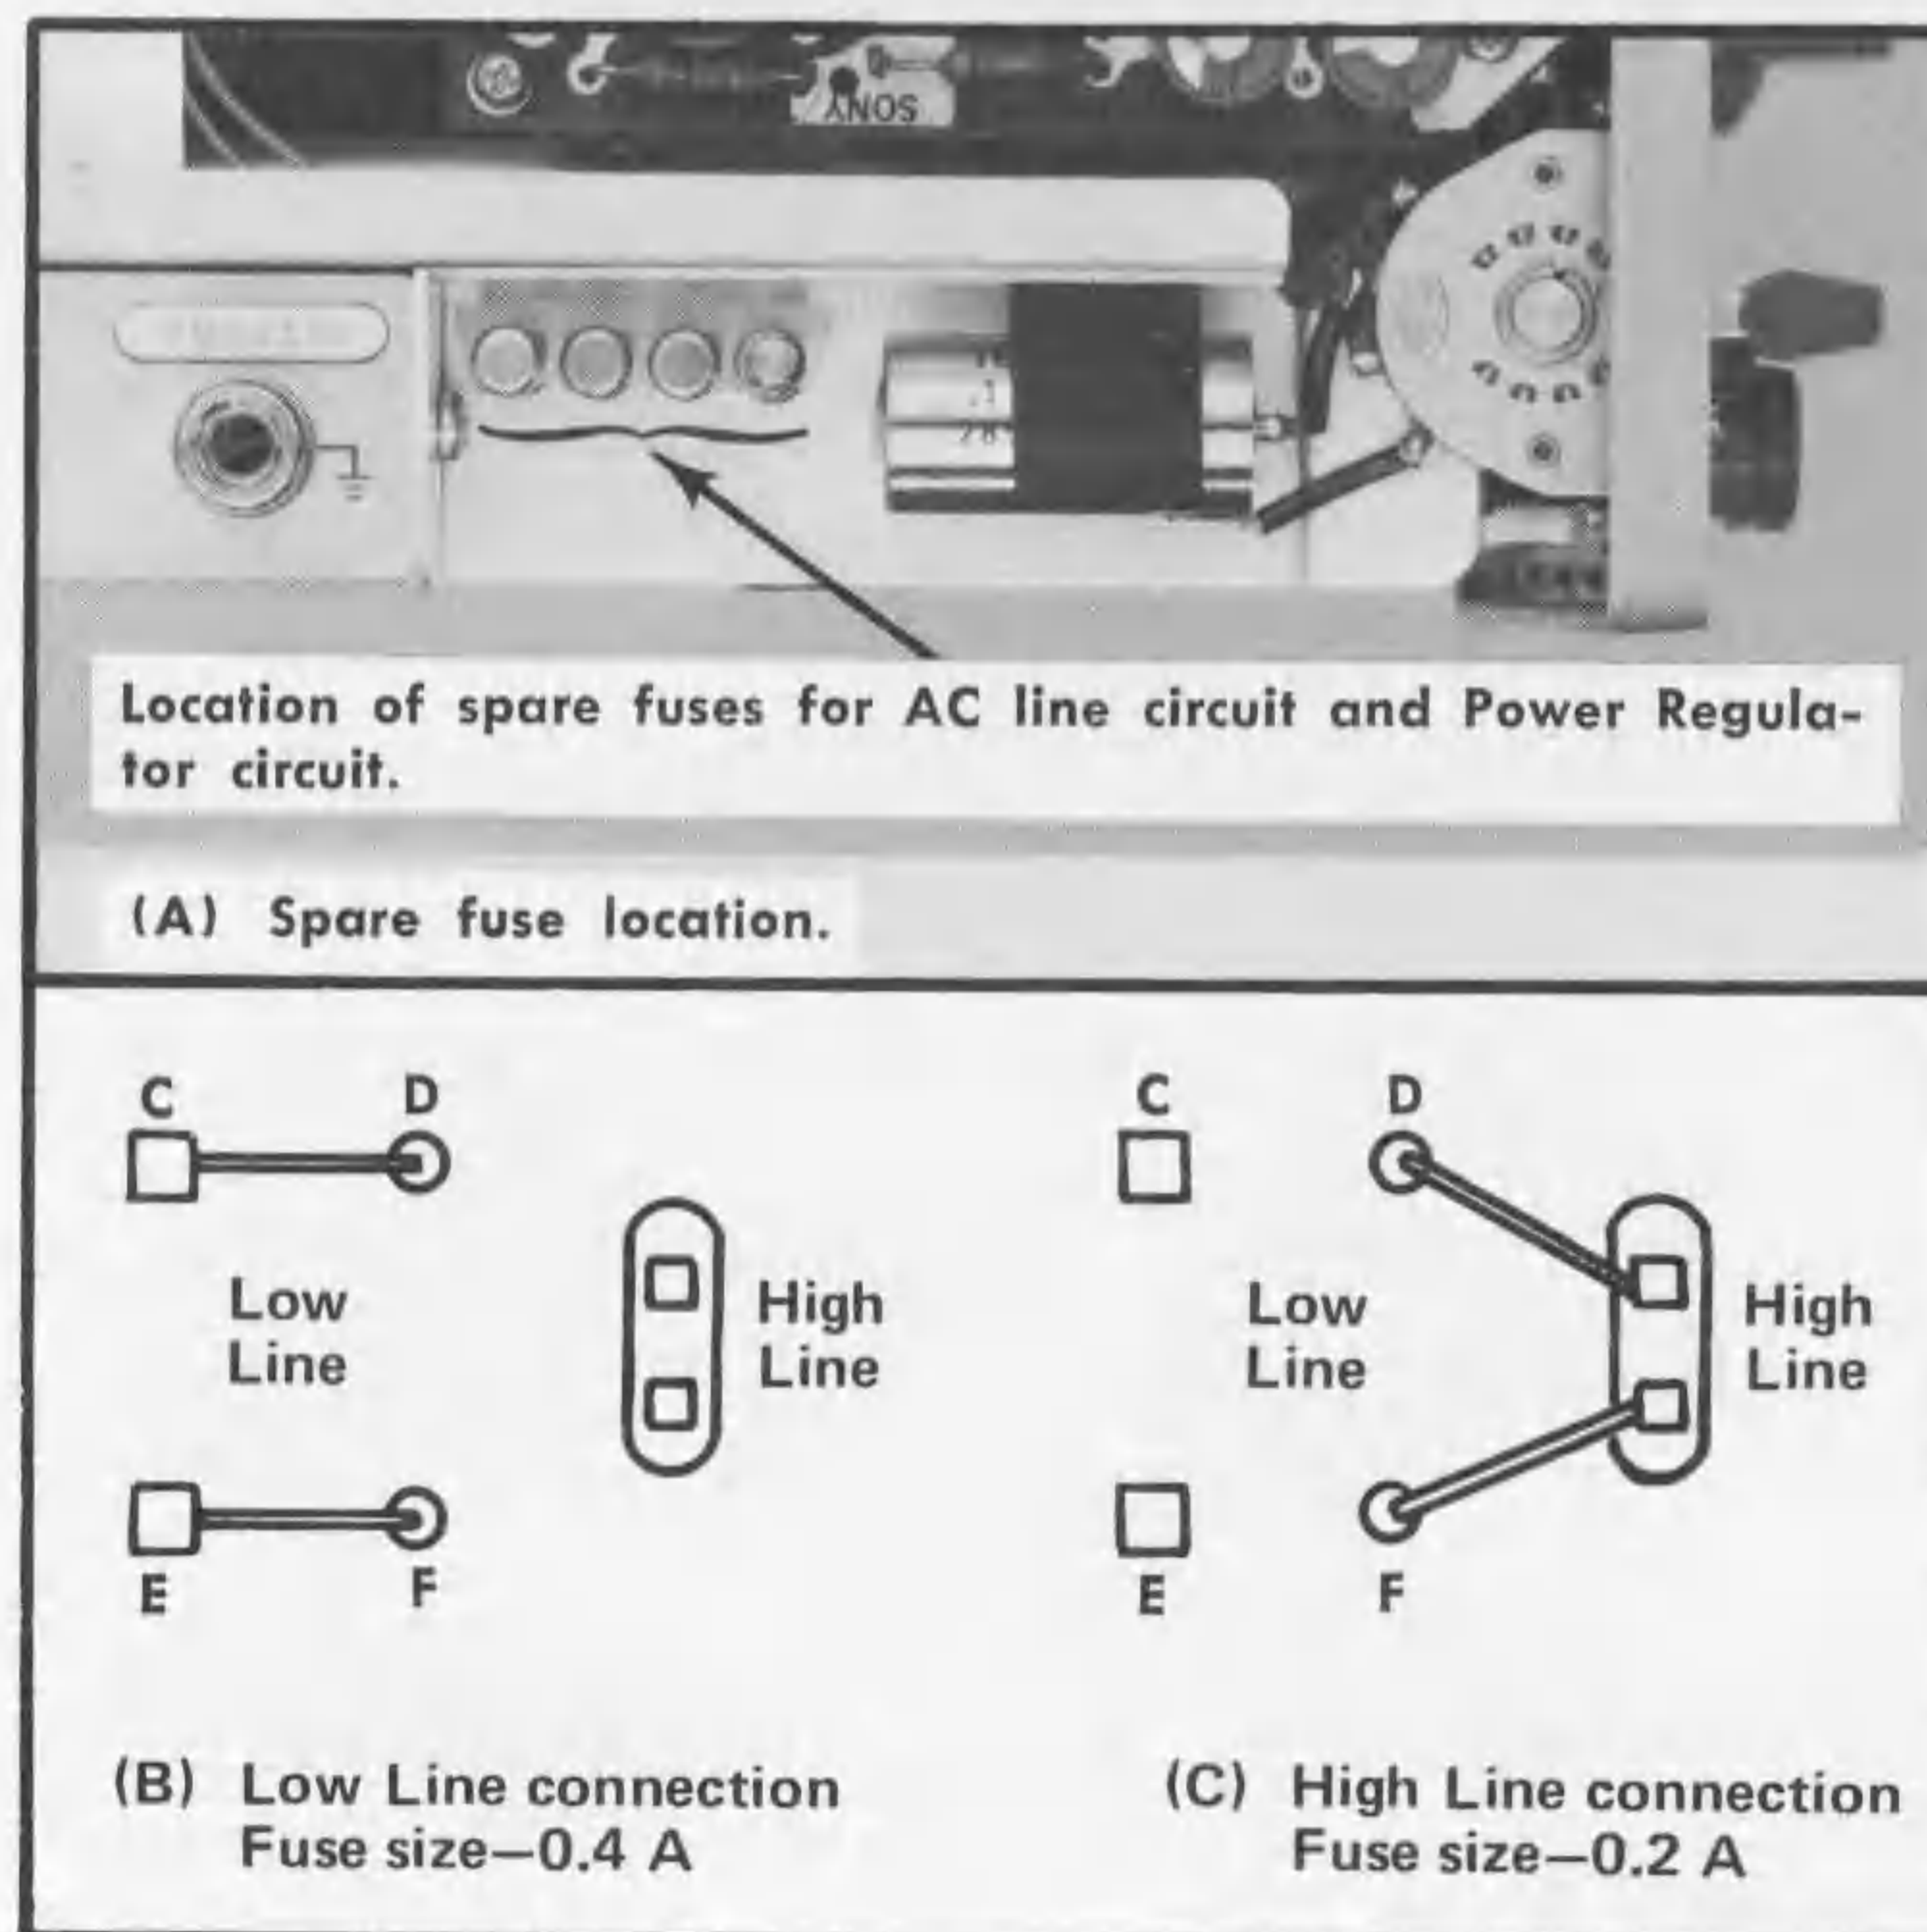

Fig. 2-2. (A) Location of spare fuses. (B) Connection changes for nominal AC line voltages.
**Line Voltage Conversion.** Fig. 2-1C illustrates the location of the jumper wires and Fig. 2-1D illustrates the details of the Power Pack. The two possible circuit arrangements, accompanying fuse sizes and the locations of spare fuses are indicated in Fig. 2-2. Re-install the insulated tubing over the unused AC terminals.